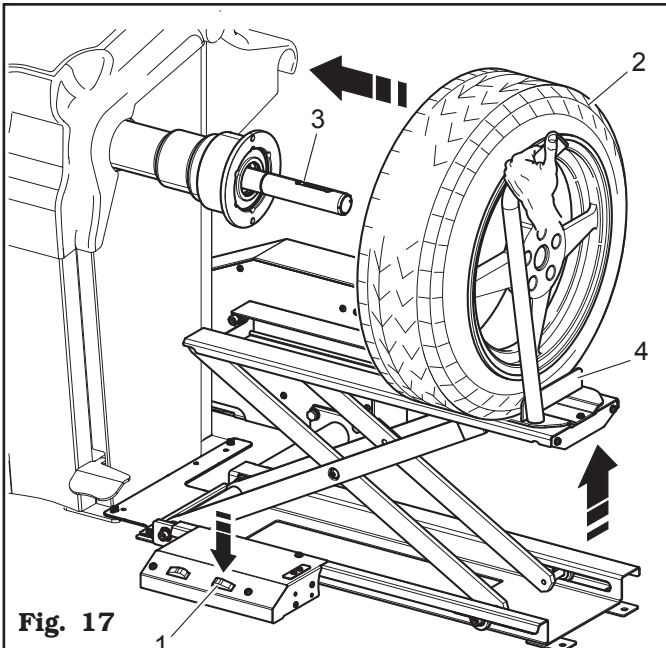

Fig. 17
- Press the pedal for rising (Fig. 17 ref. 1) and, by keeping it pressed, centre manually the wheel (Fig. 17 ref. 2) on the mandrel (Fig. 17 ref. 3) with a minimum effort, independently from the wheel weight, moving the wheel support (Fig. 17 ref. 4) in all directions.